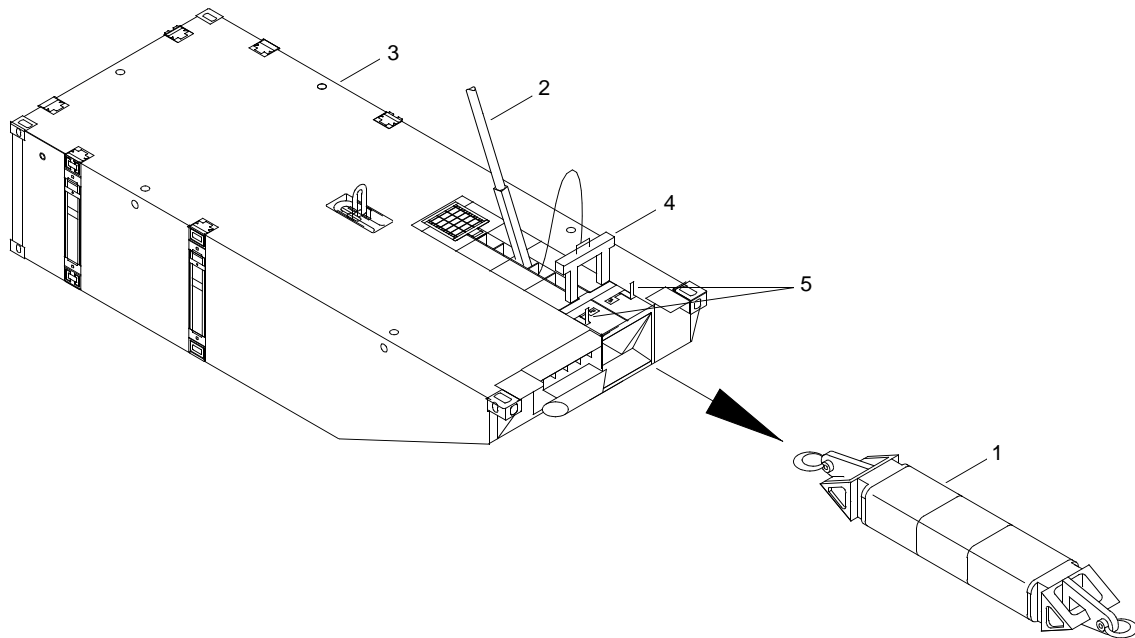

Figure 2. Flexor Removal (2)
- Move flexor (figure 2, item 1) forward using a crowbar (figure 2, item 2).
- Remove flexor connector (figure 2, item 1) from end rake (figure 2, item 3) using a forklift, forklift adapter and sling.
- Using sledgehammer, drive down guillotine (figure 2, item 4) and rotate chute bolt handles (figure 2, item 5) to locked position.
3. Position flexor connector (figure 2, item 1) into end rake (figure 2, item 3) using a forklift, forklift adapter and sling.
4. Push flexor (figure 2, item 1) backward using a crowbar (figure 2, item 2).
5. Using sledgehammer, drive down guillotine (figure 2, item 4) and rotate chute bolt handles (figure 2, item 5) to locked position.